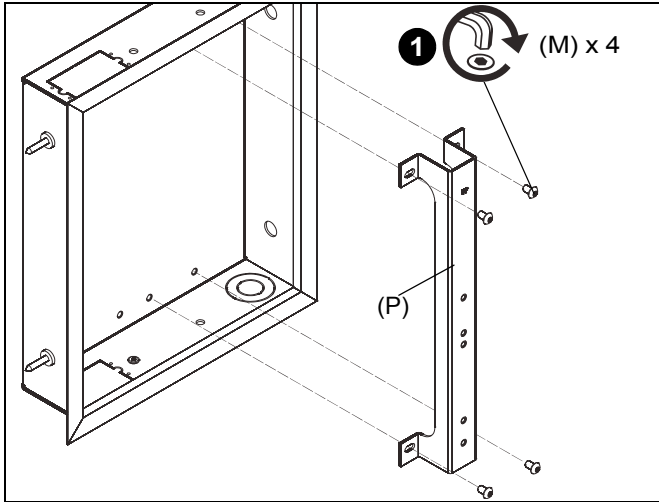

Figure 7
1. Use four 5/16-18 x 1/2" button head cap screws (M) to attach bracket (P) to the TA502 (A). (See Figure 7)